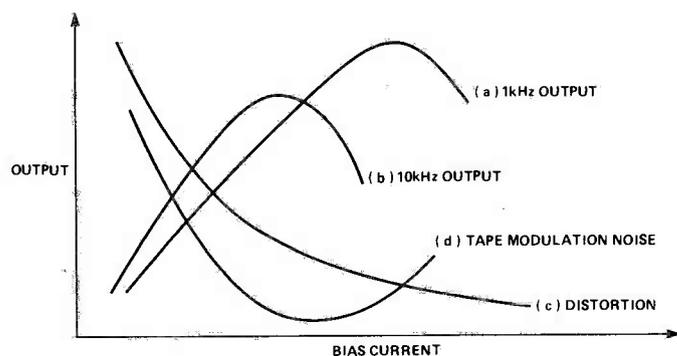

Fig. 11 How recording characteristics vary with bias current; note that only curves a) and b) are to the same scale.
11. In this curve (a) shows the relationship between recorded level and bias current at 1 kHz, and (b) the same thing for an input recording signal at 10 kHz. Clearly, the bias setting has a large effect on the flatness of frequency response of the tape recorder. Curve (c) shows the effect on the distortion of the recorded signal of the bias level. Good HF response is not readily compatible with low THD. The effect of bias level on tape 'modulation' noise is shown in Fig. 11, curve (d). Here, happily, low noise levels fit in fairly well with other needs.